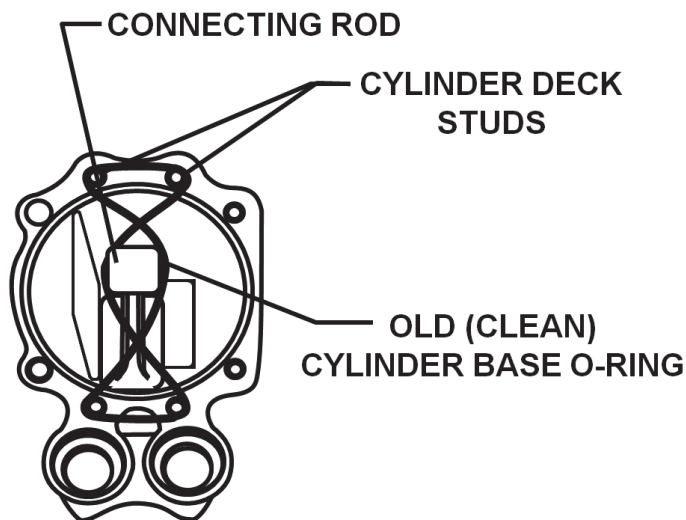

Figure 10-14. Cylinder Base O-Ring supporting Connecting Rods
13. Remove the cylinder o-ring (or packing). Wrap the old cylinder base o-ring (or packing) in a figure 8 pattern (Figure 10-14) around four of the crankcase studs and stretch the two vertical segments of the packing over the connecting rod to secure it.